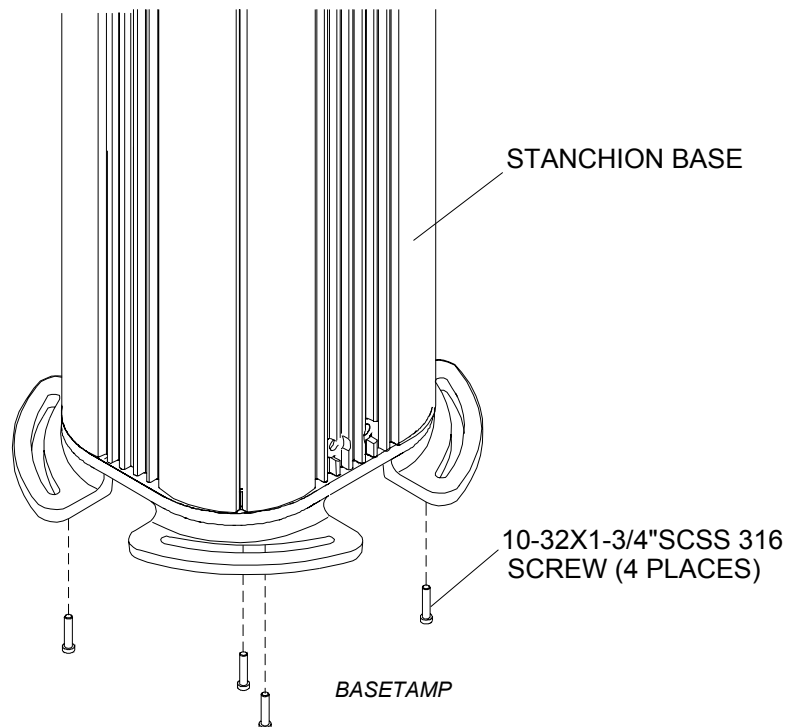

Figure 7.1 - Four Stanchion Base Screw Installation
3. At stanchion base, remove four 10-32x1-3/4"PPSS screws and replace with four 10-32x1-3/4"SCSS 316 Screws (Figure 7.1).